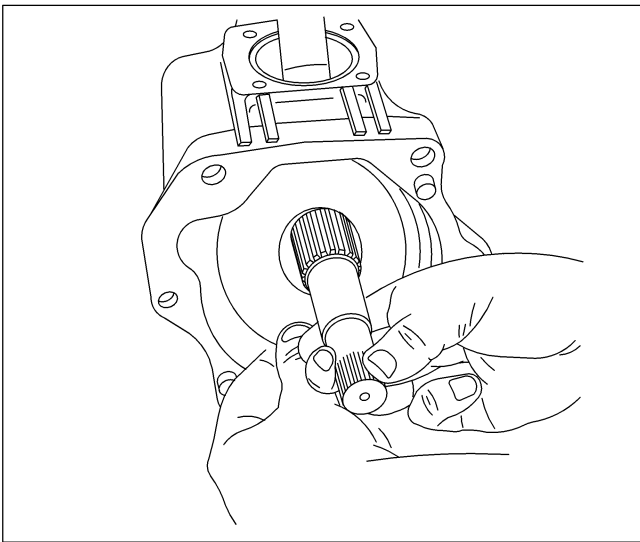

Figure 15. Removal of Yoke and Shaft from Housing.
c. Slide the yoke from side to side to loosen the yoke bearing races (62) within the housing. The races are a normal slip fit but may be tight. Use an open end wrench between the yoke and the pintle bearing to help slide out the races. Apply pressure to bearing (63) at the approximate center and allow the bearing rollers to gently press the race out of the housing.
15. Remove yoke (64) and drive shaft (55) from the housing together. Turn the yoke at an angle and slide the two parts out of the housing. See Figure 15.